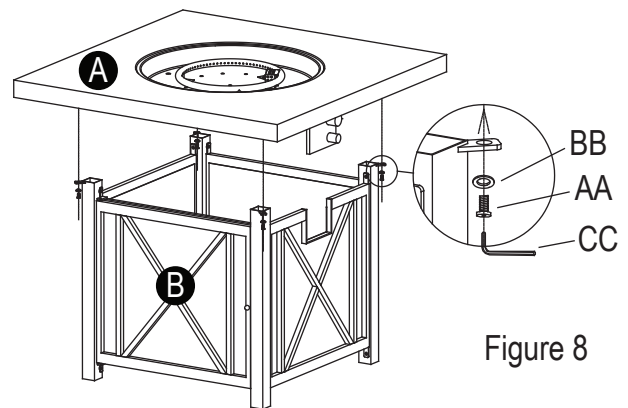

Figure 8
8. Attach the assembled base to the Table Top Assembly (A) with Bolt (AA) and Washer (BB) using the Hex Screw Driver (CC). Make sure the control panel just covers up the notch on the Right Panel (B), (see Figure8). Then tighten all the screws completely.